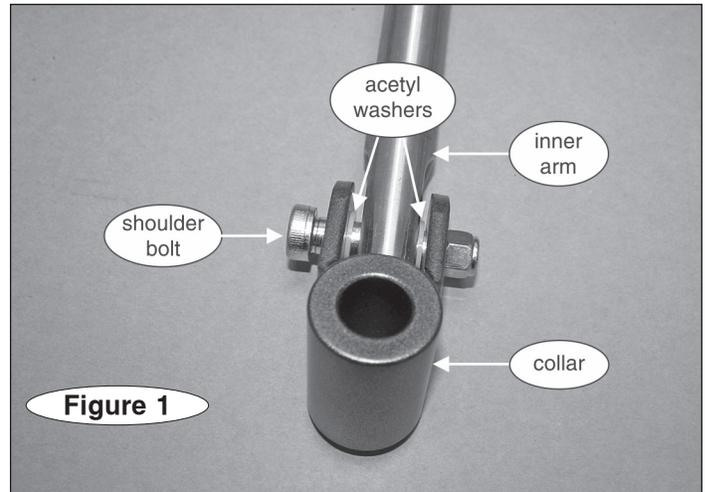

Figure 1
2. With the ¼" Allen wrench and the 9/16" socket wrench, remove the shoulder bolt connecting the original collar to the inner arm (Figure 1). Discard the two acetyl washers, the collar and the Nylock nut.